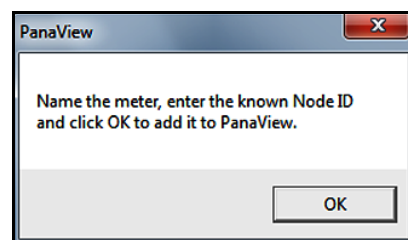

Figure 43: Confirmation Dialog Box
10. At the dialog box shown in Figure 43 below, click [OK] button to add the meter and configure it.